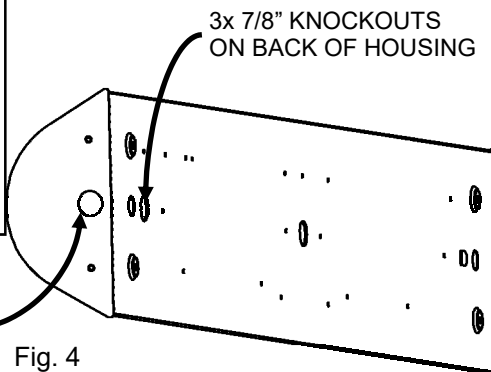

Fig. 4
9. Make the necessary wiring connections utilizing knock-outs from the back of housing or end plates (see Fig. 4) and ground connections in accordance with local electrical and / or building codes.